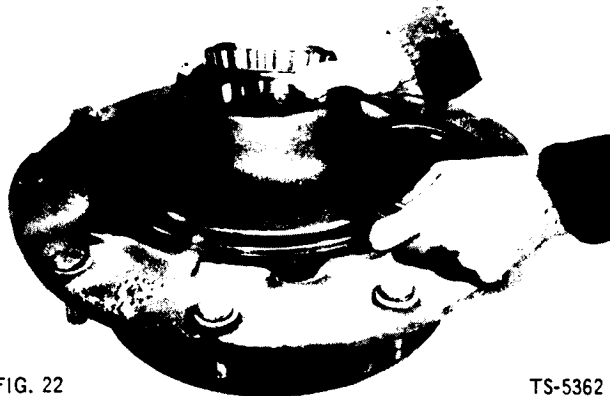

FIG. 22
2. Lift out bearing cone (Fig. 22).